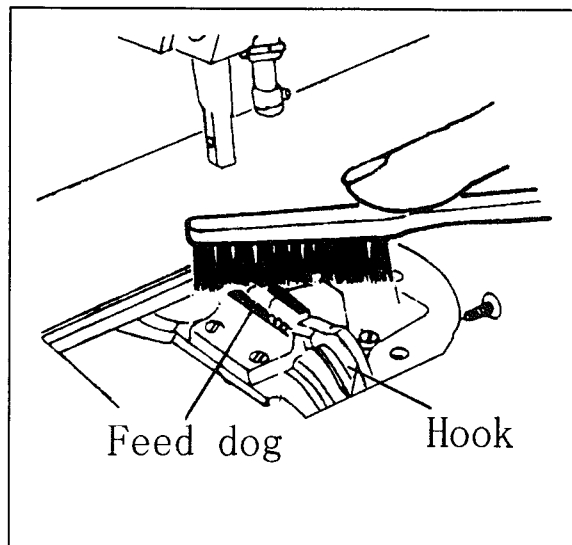

Fig. 32
23. REGULAR CLEANING (Fig.32,33,34)
1) Cleaning feed dog (See Fig.32)